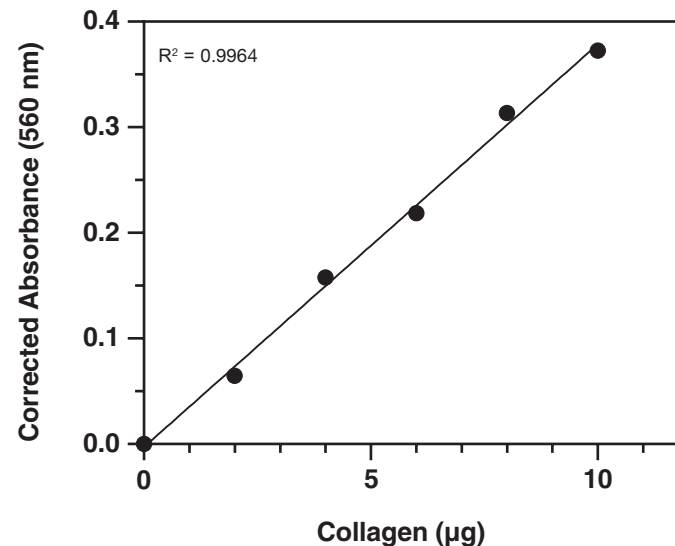

Figure 4. Collagen Standard Curve
2. Subtract the absorbance value of the zero standard from itself and all other standards and samples. This is the corrected signal (CS).
3. Plot the CS values (from step 2 above) of each standard as a function of the final amount of collagen or hydroxyproline from Table 1, page 15. See Figures 4 and 5, on pages 19 and 20, for typical standard curves.